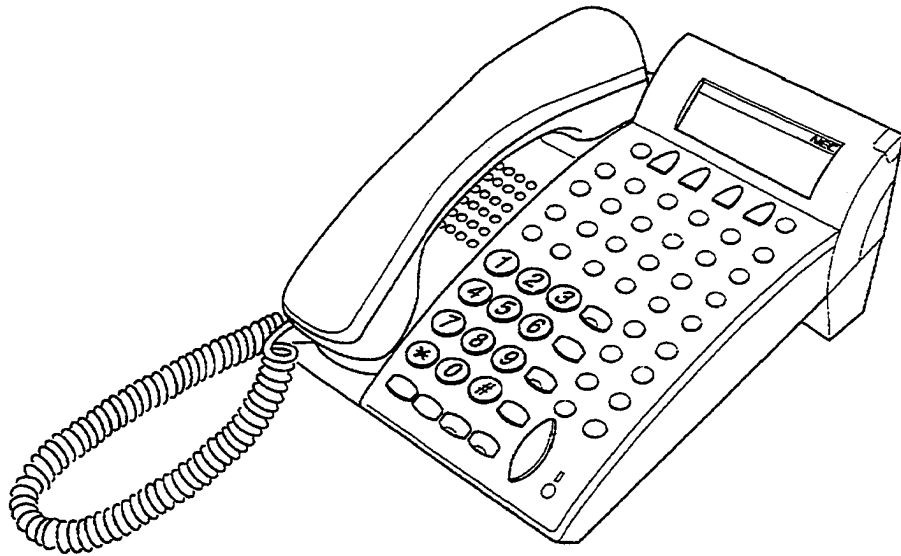

Figure 1-44 DTU-32D-() (BK)/(WH) TEL
7.2.5 DTU-32D-() (BK)/(WH) TEL
This display digital multiline terminal has 32 programmable line keys (each with a two-color LED), built-in speakerphone, built-in headset jack, a Large LED to indicate incoming calls and messages, and compatibility with the ADA-U, APR-U, and HFU-U Units. This terminal comes in black or white. Refer to Figure 1-44 - DTU-32D-() (BK)/(WH) TEL.